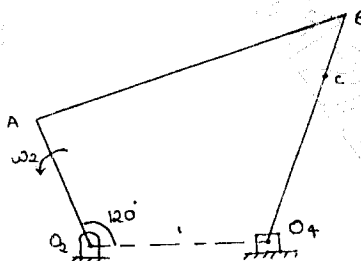

Fig. Q3(b)
- b. For a four bar mechanism shown in Fig. Q3(b), determine the acceleration of a C and angular acceleration of link 3 when crank 2 rotates at 20 radians per second.